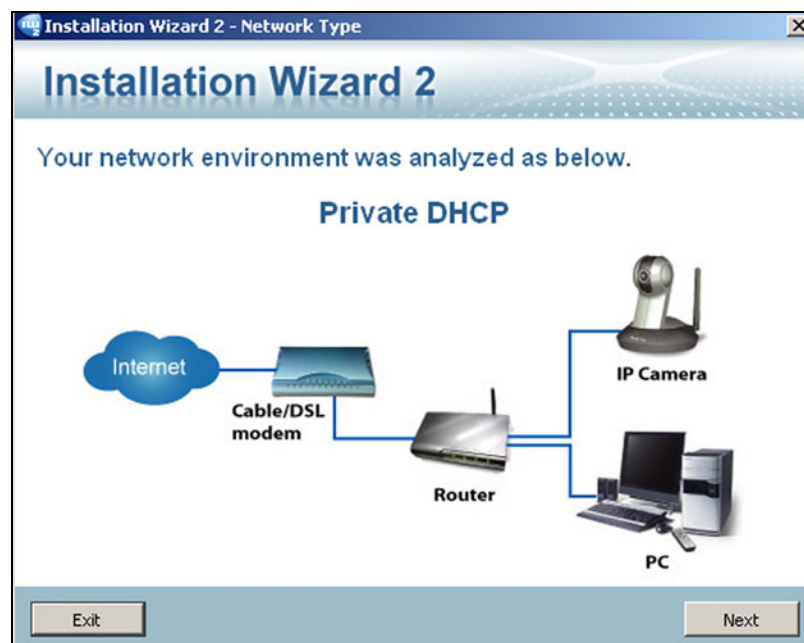

Figure 245 Sample detected network.
3. When the discovery completes, a graphic of the detected setup, similar to Figure 245, displays. Click **Next**.